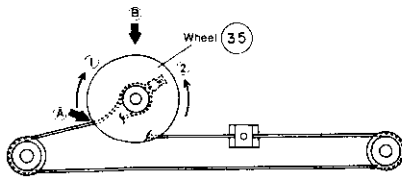

Figure 13
2. Place the Wheel (35) to the Shaft (36), and rotate the wheel clockwise until the starting point of the wire (slit on pulley) comes to the Point A (Fig. 13).
3. Rotate the Wheel (35) then counterclockwise until the